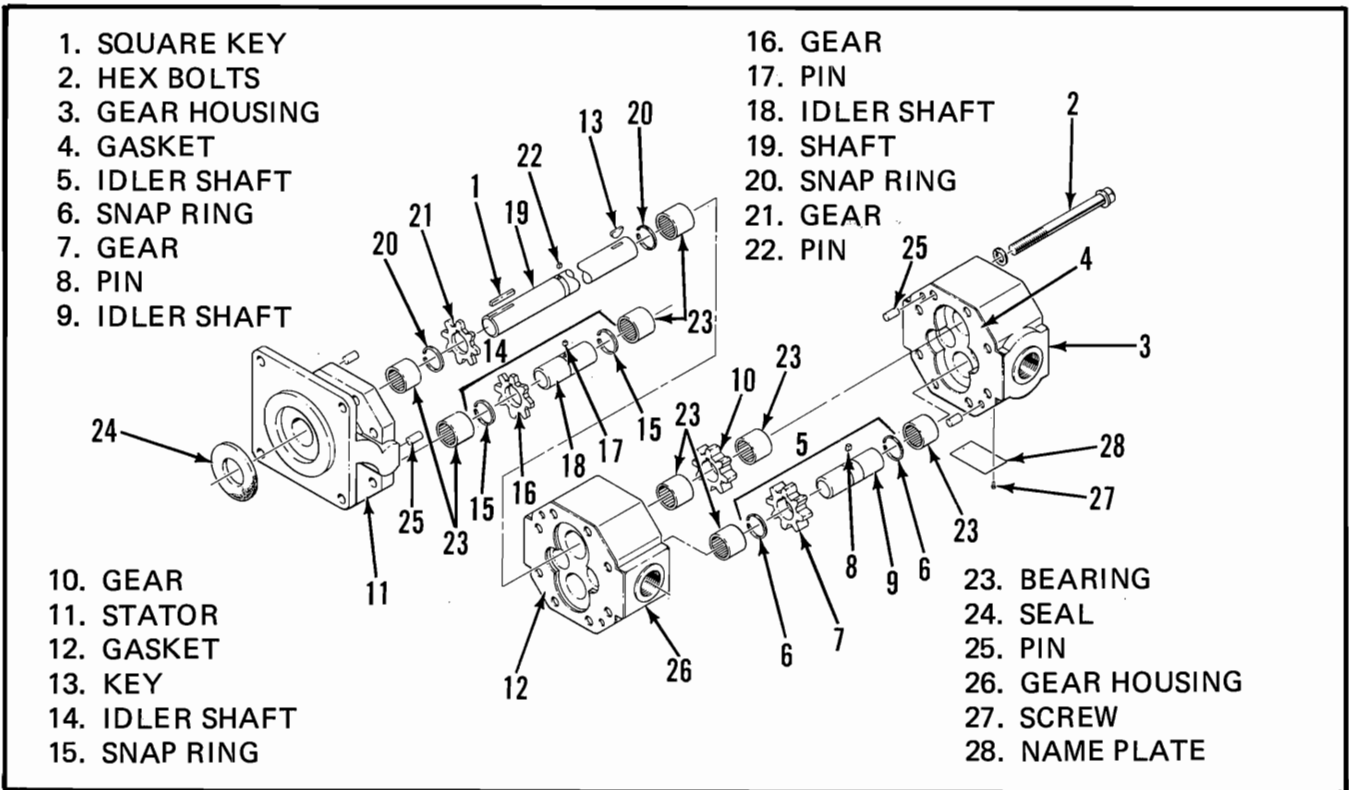

Figure 5-8. Hydraulic Pump Disassembly
- (1) Disconnect the hose assemblies (1, 2 and 3) and plug them.
- (2) Loosen the setscrews (4 and 5) then slide the three piece coupling (6) toward the motor as far as possible.
- (3) Remove the nuts (7) and lockwashers (8) to free the pump (9) from the mount.
- (4) As the pump (9) is maneuvered away from the mount, slide the coupling off the pump shaft. Take care to retain the key (10).
- b. Disassembly and Inspection (Figure 5-8).